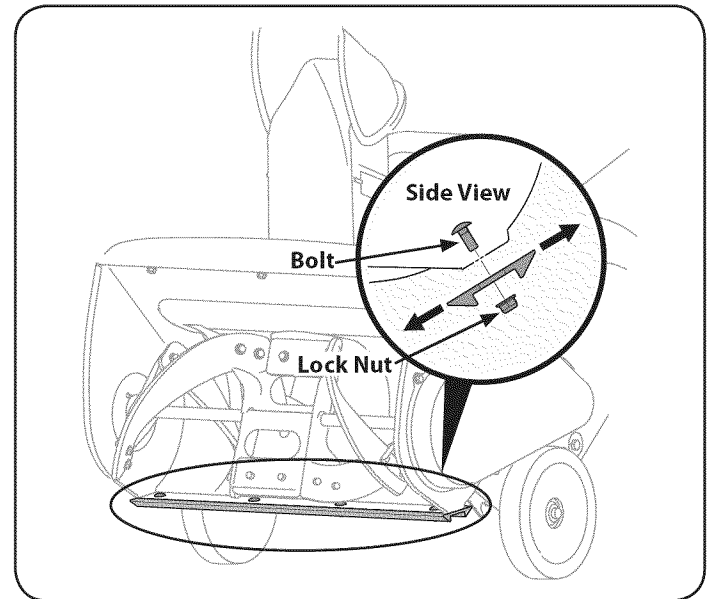

Figure 12
3. Loosen the four lock nuts and bolts which secure the shave plate to the housing. See Figure 12. Move the shave plate to the desired position and retighten the nuts and bolts securely.